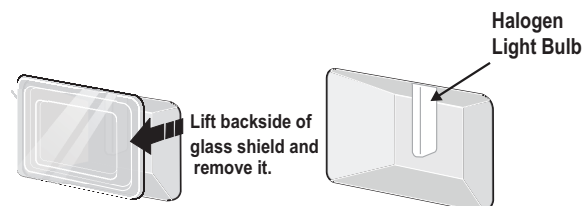

Figure 31: Light shield and bulb
2. To remove the glass shield, pull the back side of the shield toward the inside of the oven in a manner to lift it up from the oven side. The glass shield should come out easily by pushing a little toward front of the wall oven (Figure 31).